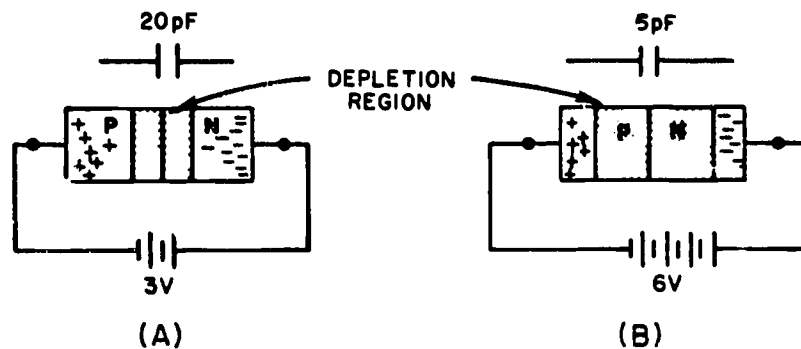

Fig 3-15. Varactor capacitance versus bias voltage.
The ratio of varactor capacitance to reverse-bias voltage change may be as high as 10 to 1. Figure 3-15 shows one example of the voltage-to-capacitance ratio. View (A) shows that a reverse bias of 3 volts produces a capacitance of 20 picofarads in the varactor. If the reverse bias is increased to 6 volts, as shown in view (B), the depletion region widens and capacitance drops to 5 picofarads. Each 1-volt increase in bias voltage causes a 5-picofarad decrease in the capacitance of the varactor; the ratio of change is therefore 5 to 1. Of course any decrease in applied bias voltage would cause a proportionate increase in capacitance, as the depletion region narrows. Notice that the value of the capacitance is small in the picofarad range.